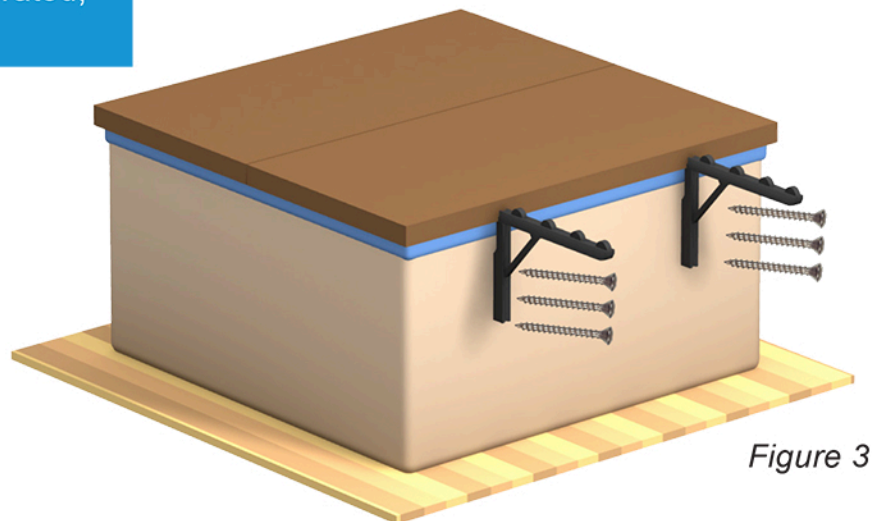

Figure 3
2 Secure each **Roller Rack** to the spa skirt by inserting all six **#10 screws (F)** tightly into the screw holes that you marked in the previous step. (*Figure 3*)
- 3 Push the spa cover on top of the roller racks. Now, enjoy your spa! (*Figure 3*)